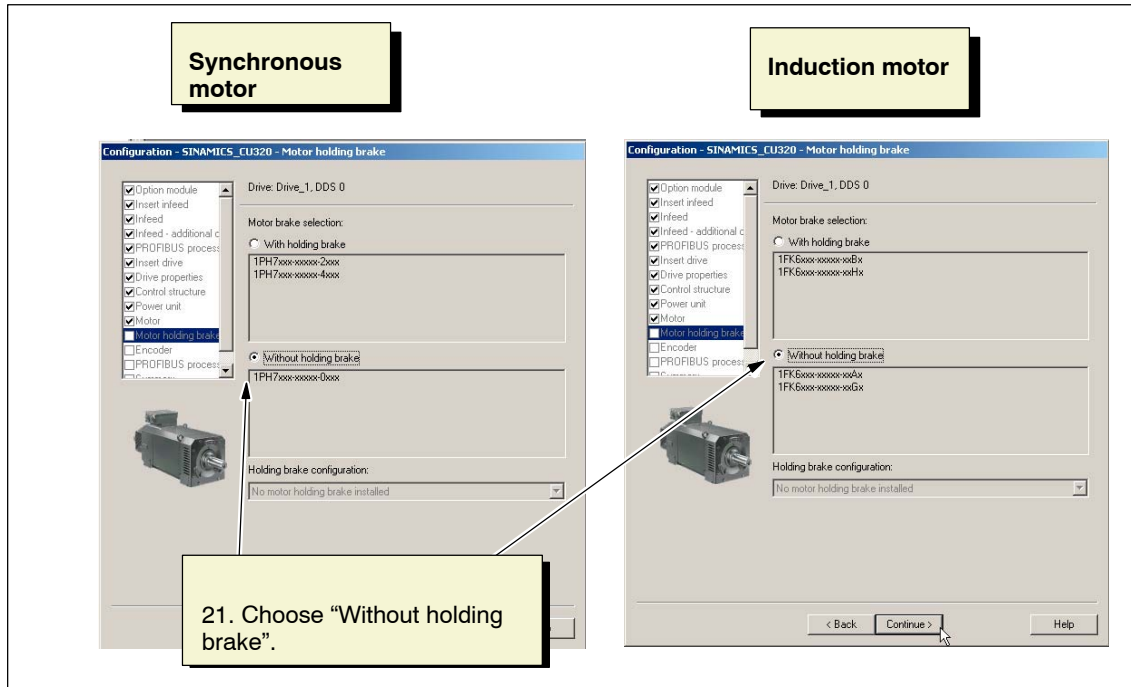

Fig. 3-27 Motor configuration
20. Click **Continue** > to select the motor holding brake (see Fig. 3-27).